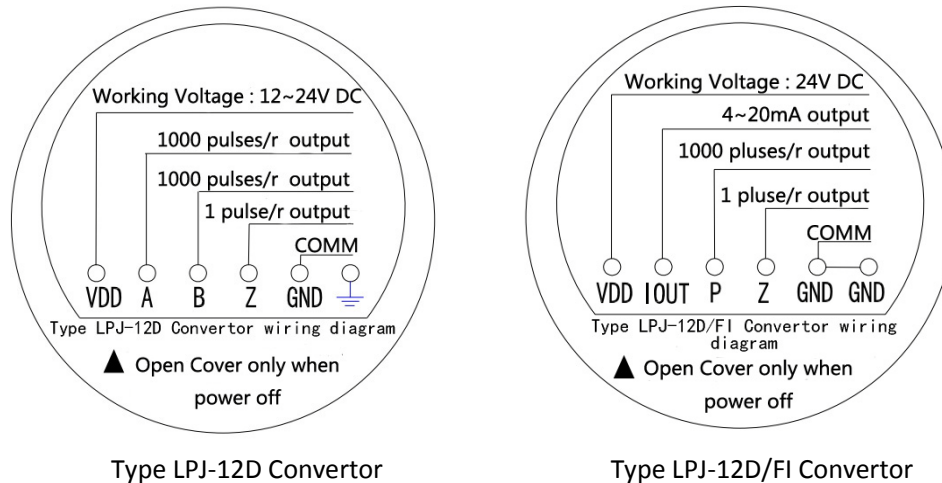

Fig. 5 Wiring Terminals for Optical-Electrical Pulse Converter
- a) According to the adopted Type, wiring the terminal as shown in Fig.5